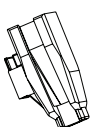

Figure 1
2. Place the microphone adapter on the microphone boom and slide it to end of the microphone pushing it tightly up against the microphone—*see Figure 1*.